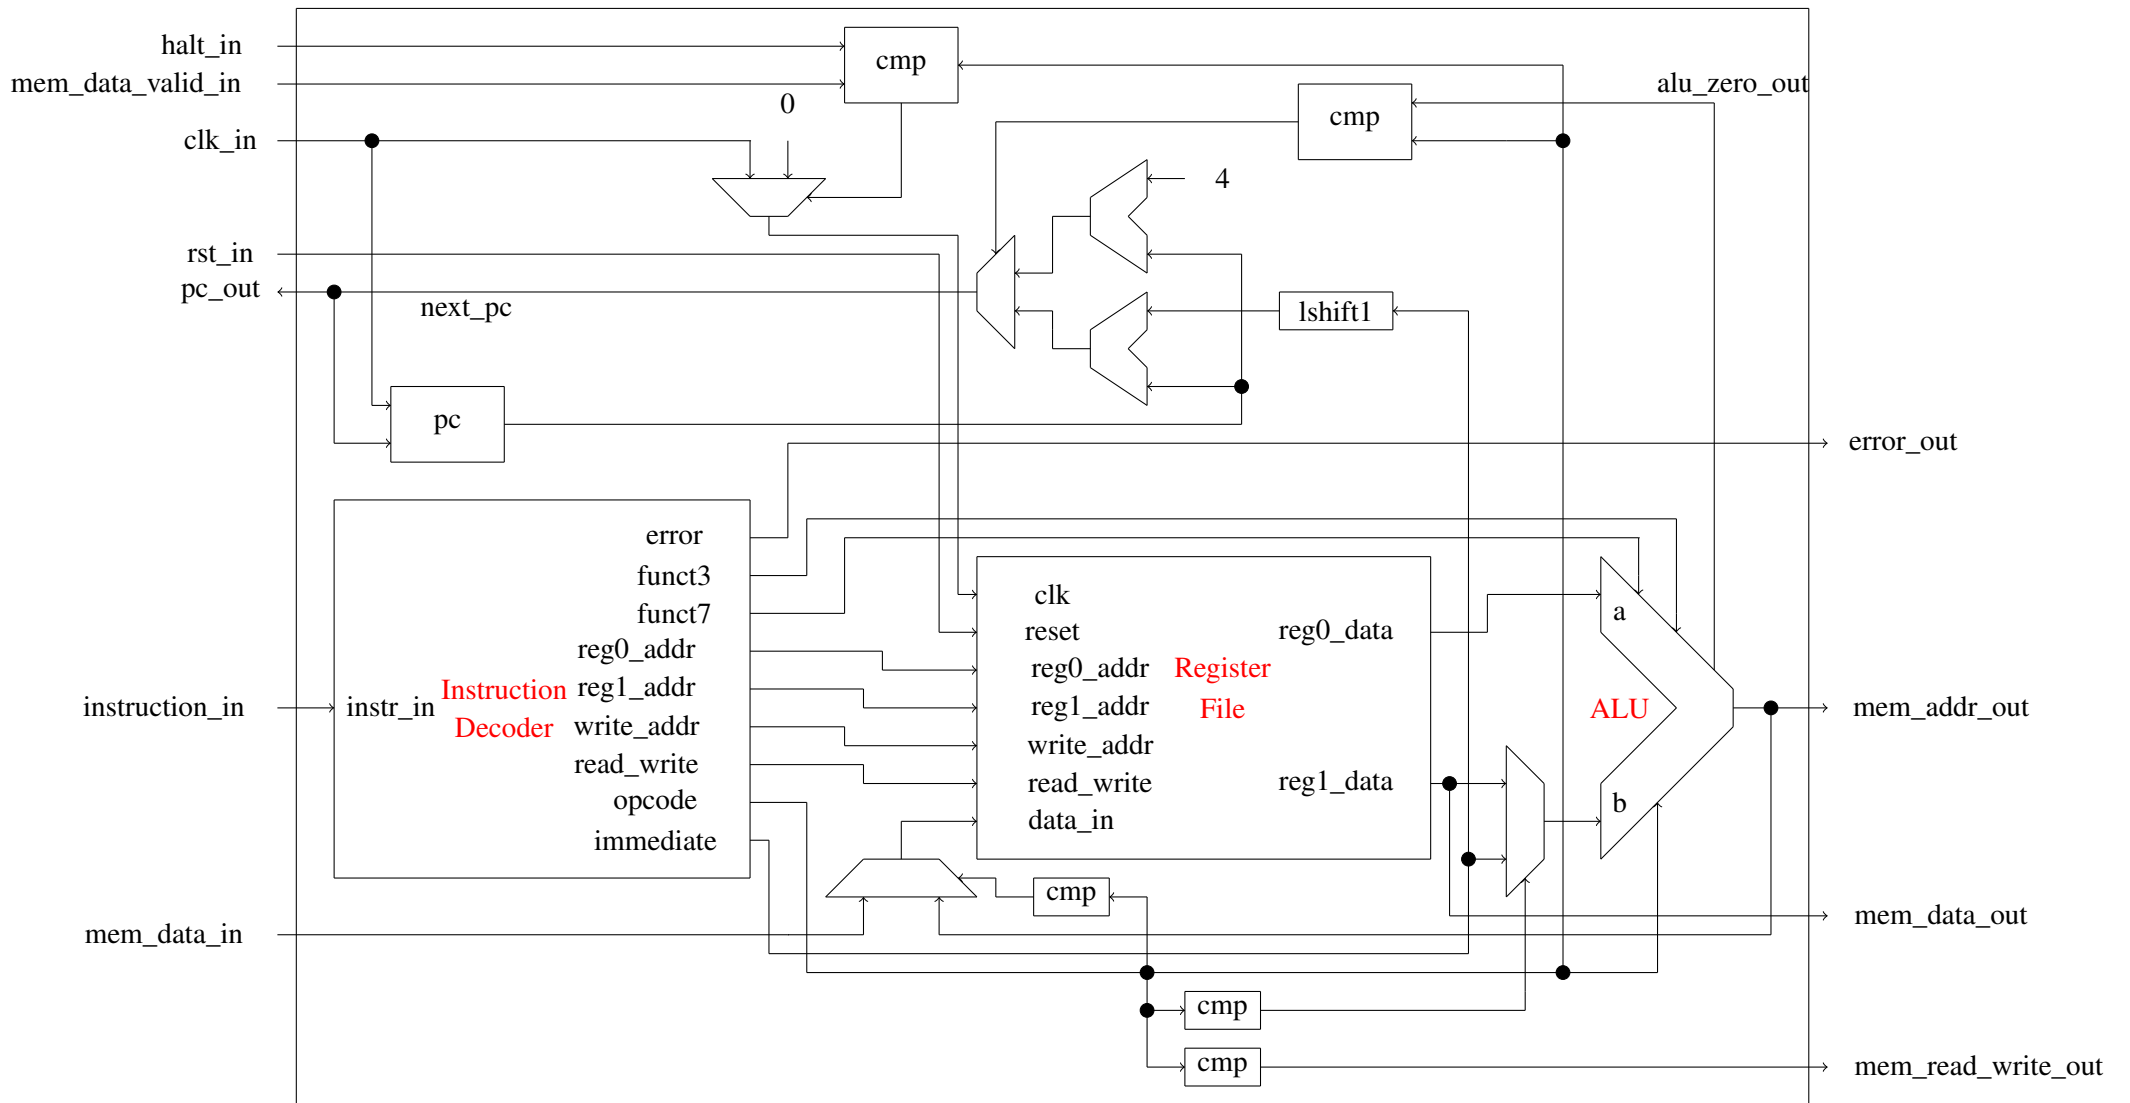

Figure 2: Tiny5 CPU
In this task you will implement a functionally reduced single-cycle RISC-V CPU (Tiny5), as shown in Figure 2, and test it with smaller assembler programs. The reduced instruction set consists of:
- (a) Create the multiplexer, which is connected to the `data_in` port of the register file (see figure 2). The output of the multiplexer should be connected to the `rf_data` signal. Tip: You can control your multiplexer using the `opcodes` of the *LW* instruction.